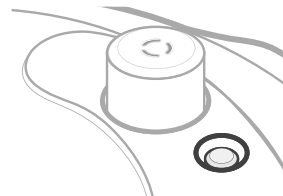

Figure 9.6
7. The float valve will drop to indicate when the pressure has been fully released. [Figure 9.6]